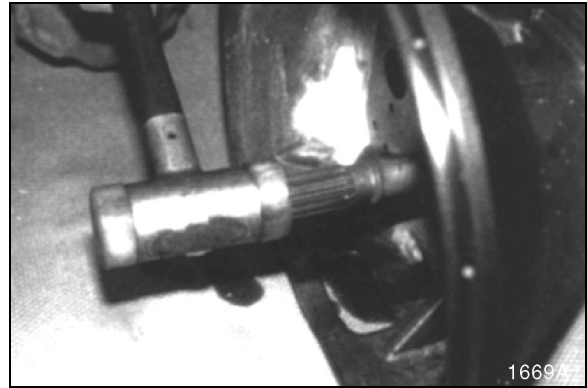
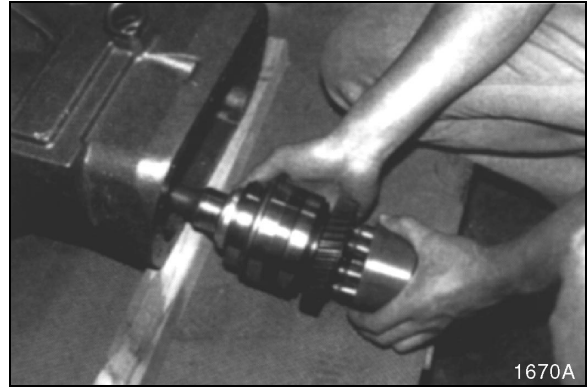

Figure 76
Figure 77
13. Strike end of drive shaft with plastic hammer and remove rotary group. See Figure 76 and Figure 77.